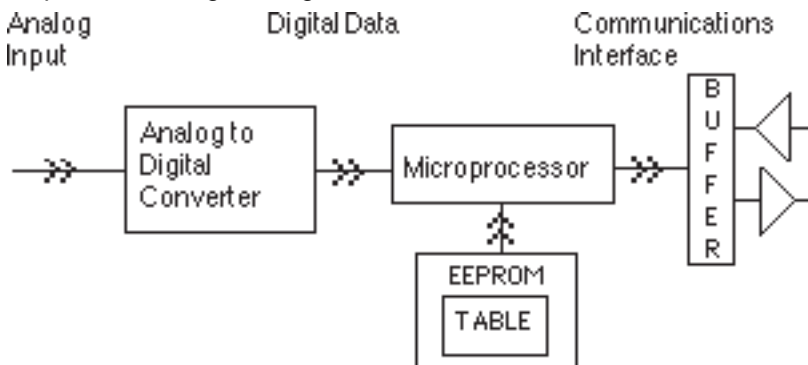

Figure 3. D2000 Series Block Diagram
Figure 3 is a simplified block diagram of the D2000, showing only the portions related to re-scaling. The μP reads the raw Analog-to-Digital Converter (ADC) data after every conversion. The μP takes the raw ADC data and looks it up in a table held in EEPROM. The table contains entries which map the raw ADC data to user-defined output data values scaled in engineering units. If an exact match is not found, the data is interpolated between the two closest table entries. The resulting data in engineering units is stored in a memory buffer where it may be read by the Read Data (RD) or New Data (ND) Commands.